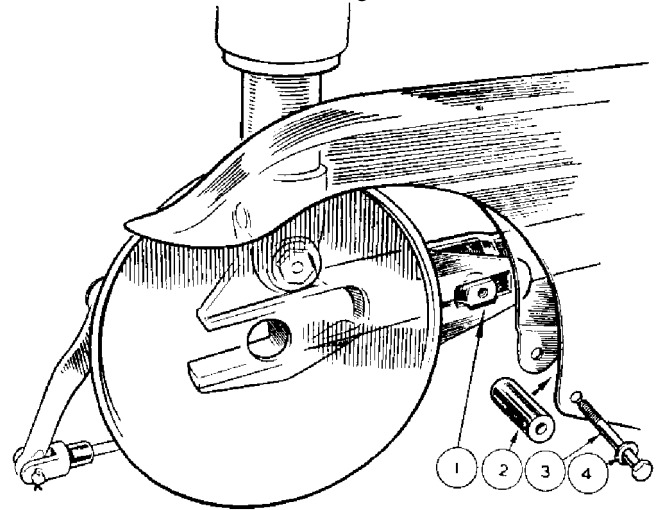

FIG. 74 Brake Anchorage
Remove bolt (3) and spacer (see Fig. 74), and chain guard. Remove bolt fixing rear chain guard at front.